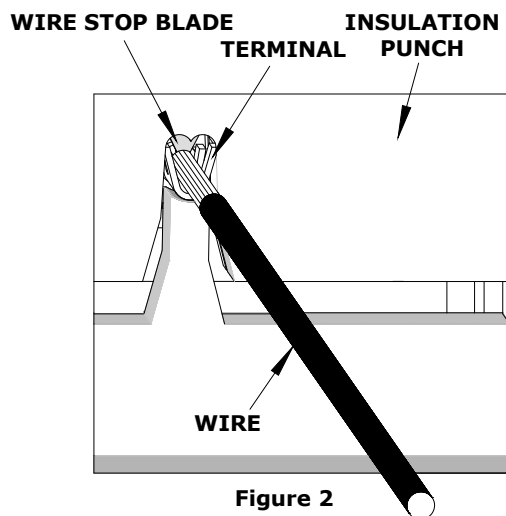
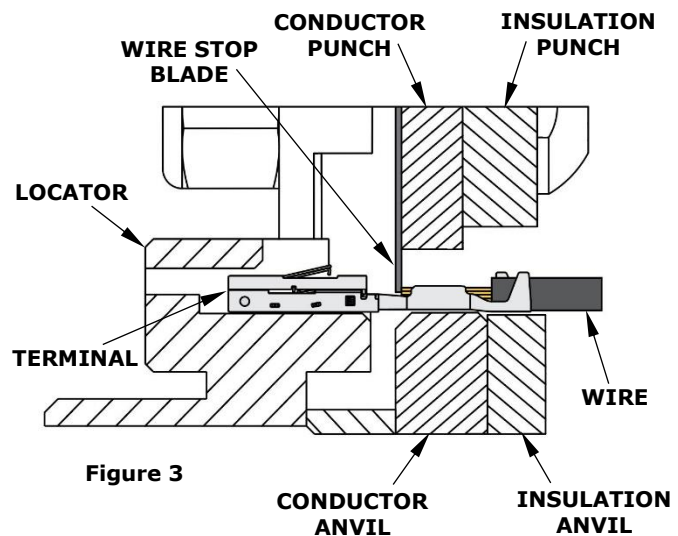

Figure 2
Figure 3
5. Slide the pre-stripped wire into the terminal, making sure to aim the wire brush toward the tip point on the wire stop blade. See Figure 2. Align the wire so that it is parallel and resting in the terminal. Maintain a light and constant pressure on the wire against the wire stop blade (do not let go of the wire). See Figure 3.